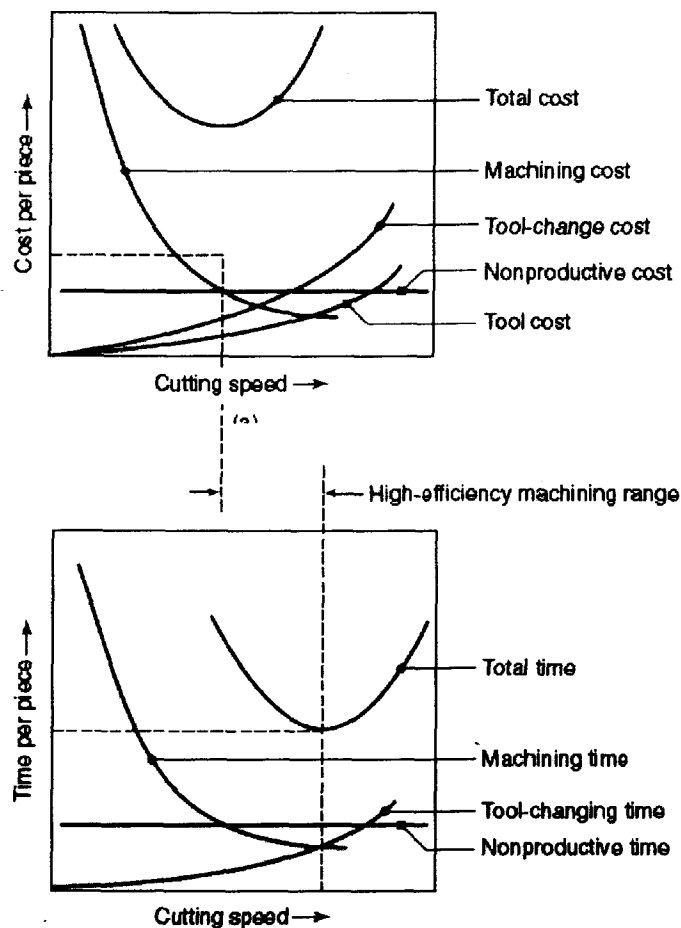

Figure Q1[b] - Machining Economics
- [b] Discuss briefly how would you go about reducing the total machining cost in order to meet the level of economics in machining by referring to the following Figure Q1[b].